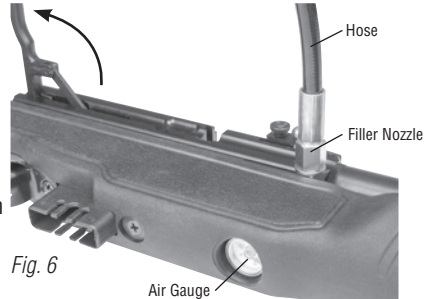

Fig. 6
2. Fit the filler nozzle to the air-line of the charging equipment, which must incorporate a pressure gauge. **(Fig. 6)** Ensure both filler nozzle and rifle filler hole are clear from dirt and gently push the nozzle into the filler hole.